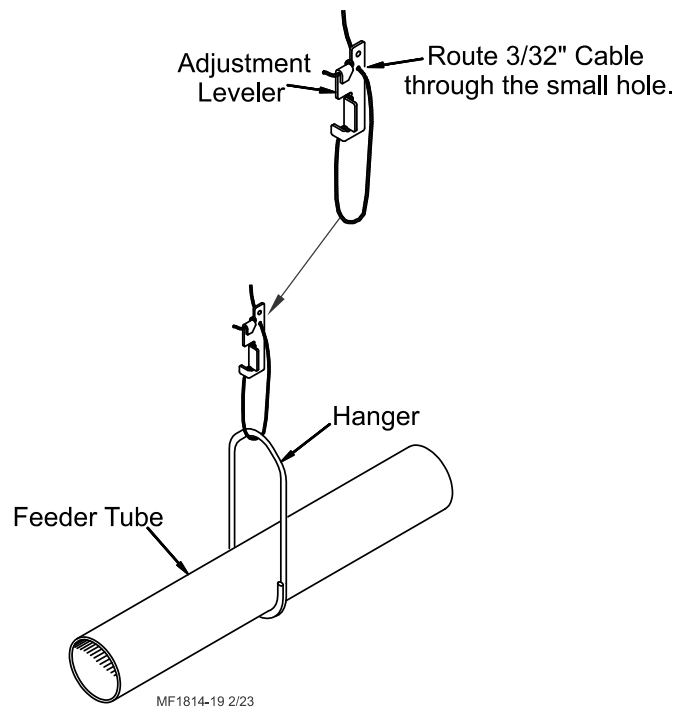

Figure 22. Adjustment Leveler & Hanger Assembly
For feeder lines over 350 feet (106 m), install a 2985 Cable Hook between the mounting bolt and Power Winch frame, as shown in Figure 22.
5. Install the Hangers on the tubes on the 8' (2.4 m) spacings determined by the suspension drop lines. **Figure 22** shows the proper installation of the Hanger Assembly. Make sure the outlet drop hole is down when the Hangers are installed, otherwise feed will not be allowed to drop into the feeder pan.
6. Install Adjustment Leveler within 6" (152 mm) of feeder line hanger. **Figure 22** shows the proper cable routing around the Adjustment Leveler.